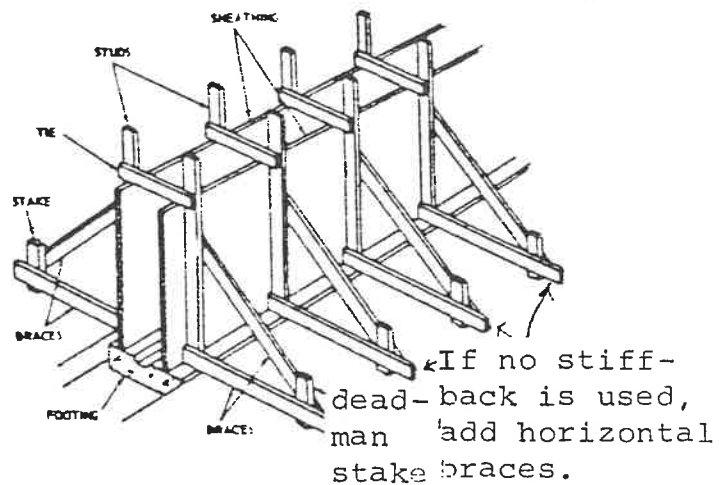
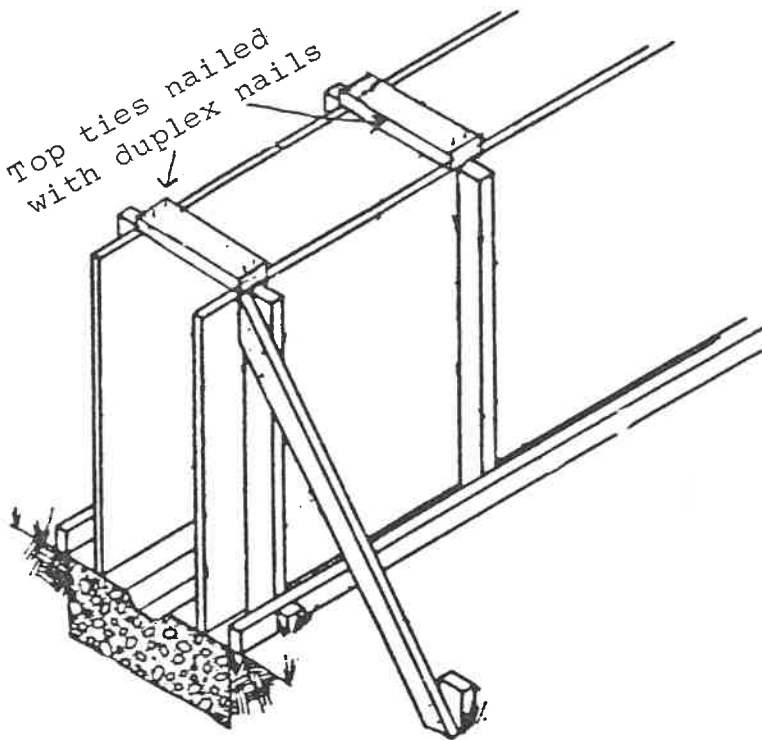

Figure 24
Figure 31
If a stiffback is not used, an additional horizontal brace should be placed from the deadman stake back to the bottom of the studding as shown in Figure 24.
7. After completing this phase, nail with duplex nails, ties across the top of the forms to keep them from spreading. Be sure to maintain the thickness of the wall at this point. Install enough ties to hold the forms in alignment the entire length of the wall. The ties could be fastened as shown in Figure 24 if you have built that type of form or as shown in Figure 31.